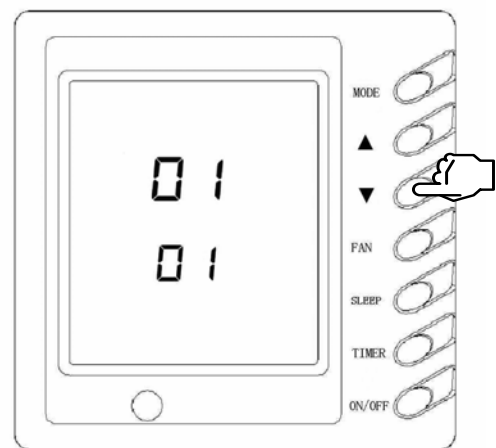

Fig.11
- ①: Indoor ambient temp is air inlet temp and setting temp area displays 01, as shown in Fig.11.